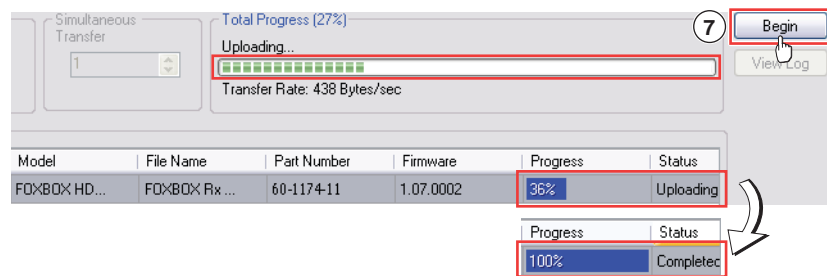

Figure 25. Firmware Loader Screen
7. In the Firmware Loader window, click **Begin** (see figure 25).